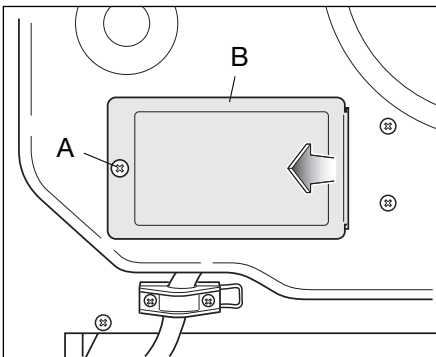

Fig. 9
- 1 Unscrew the screw "A" securing the cover plate "B" behind the oven (Fig. 9).